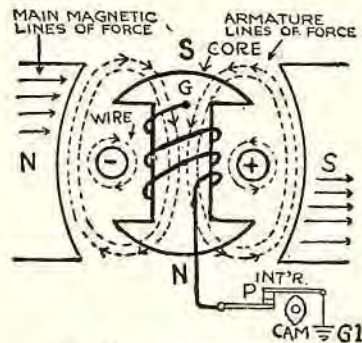

Fig. 36. Armature reaction.
There is, however, another factor which has not yet been considered, and that is, that when this generated e.m.f. is produced in the wires on the armature, by the wires cutting the main magnetic lines-of-force flowing from N to S poles of the magnets, this heavy current in the wires on a closed circuit has the effect of making an electro-magnet out of the iron core (Fig. 36). This is the same condition as was explained on page 182, where current from a battery flowing through a coil of wire around an iron core caused magnetic lines-of-force to whirl around the entire coil and thus form an electro-magnet with an N and S polarity.
Due to the generated e.m.f. in the primary wires on the armature, which is a closed circuit, the same effect is being produced, that is, independent magnetic lines-of-force are set up around the armature core which has made a S pole and N pole of the armature core (Fig. 36), with the result that these independent armature lines-of-force cause the main magnetic lines-of-force to follow their own path. This action is termed "armature reaction."
Note. The position of the armature in Fig. 36 is represented in Fig. 35. In the latter, the main magnetic lines-of-force are passing in at the top of the armature core and coming out at the bottom. This is due to the fact that the "main magnetic lines-of-force" are flowing "with the armature lines-of-force." See arrow points of both, in Fig. 36.
We have now built up a very strong magnetic field which extends all around the wire on the armature, and the principle is now similar to the coil action, explained on pages 182, 184. Now, the point is, if we could demagnetize the core of the armature, so that the lines-of-force which have been built up around the armature (Fig. 36) could collapse rapidly (as with the coil on pages 182, 184), then, as the lines-of-force collapsed, they would cut the wires at a very rapid rate of speed, if the core was fully demagnetized, or magnetized in an opposite direction. The result would be another independent induced (or self-induced) e.m.f. in the wires of a higher voltage, causing the current to flow in the wires in the same direction as it did before the circuit was opened.
The demagnetization of the core is accomplished by two different factors. If the circuit is opened at the interrupter points (P) (Fig. 36), just as the armature breaks from the pole piece (e), (Fig. 37), the magnetic lines-of-force which were flowing through the armature core in the direction shown in Figs. 35 and 36, will now flow in the opposite direction, coming in at the bottom instead of the top, as in Fig. 37, thus assisting in the demagnetization of the armature core.